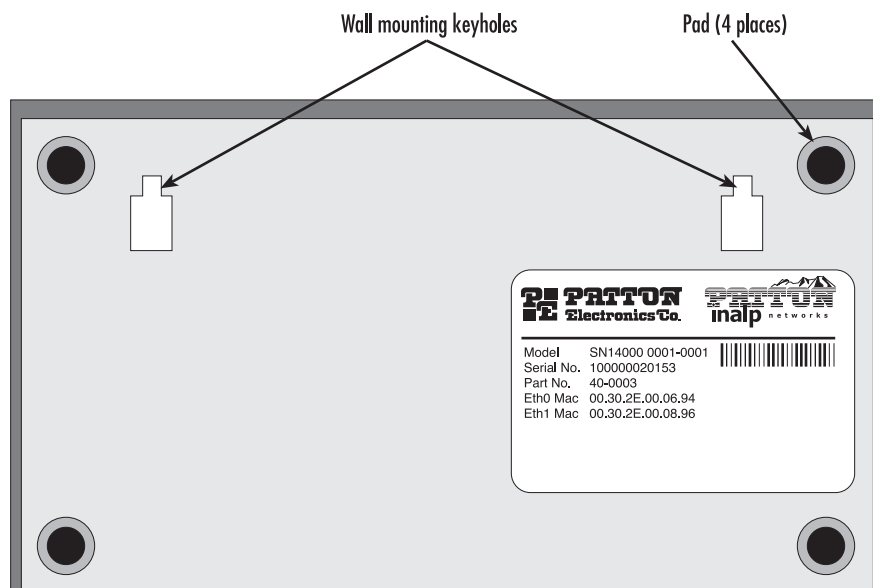

Figure 44. Pads and wall-mounting keyholes locations
1. Remove one of the rubber pads from the adhesive strip (included in the SmartNode installation kit pack) and place it on a corner on the bottom of the SmartNode 1400 (see figure 44).
2. Install the (user-provided) wall anchors. Any standard anchoring method may be used, such as wood screws; butterfly anchors/molly bolts (for installation into a sheetrock/drywall or plasterboard surface); or expansion bolts (for installation into a concrete or masonry surface). The anchor screw heads must have just enough clearance to allow the wall-mounting key holes (see figure 44 on page 81) to slip onto them when hanging the SmartNode 1400.